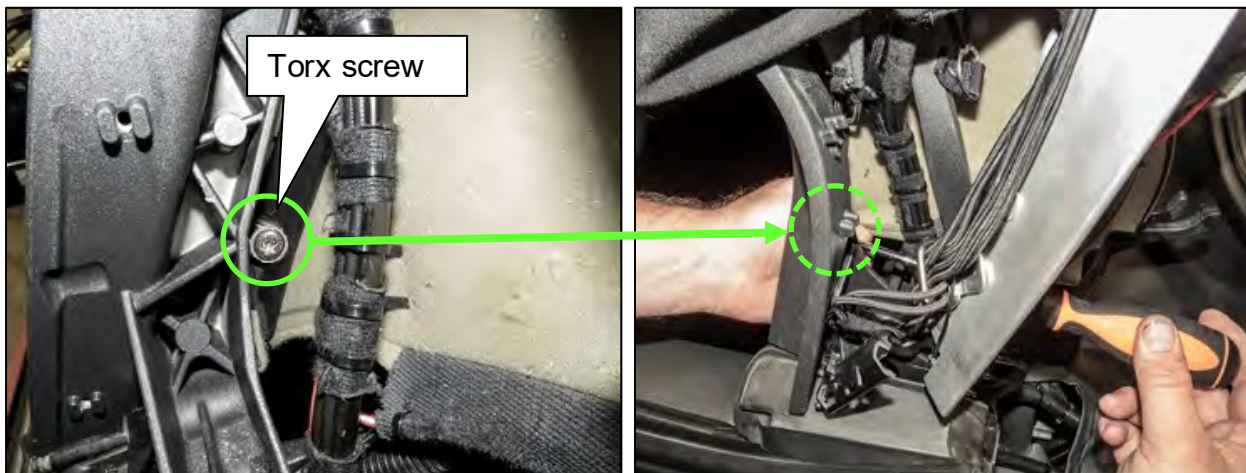

Figure 24
28. Remove the TORX screw shown in Figure 24.